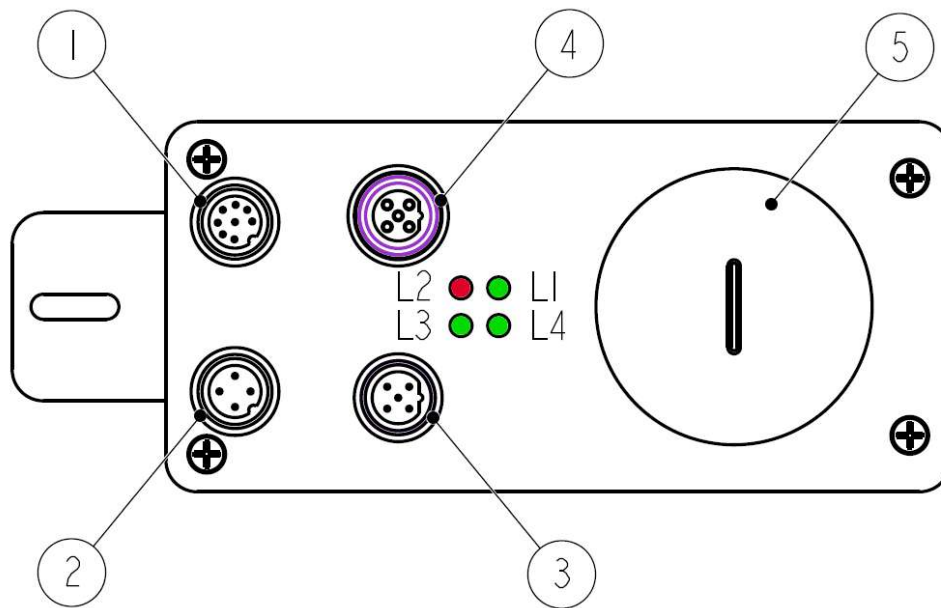

Figure 4: Electrical connections
4.2 Connectors (Figure 4)
4.3 Diagnostic LEDs (Figure 4)
Four LEDs located next to the BUS IN & BUS OUT connectors (see Figure 4) are meant to show visually the operating or fault status of the Modbus interface and the device as well. The meaning of each LED is explained in the following table: